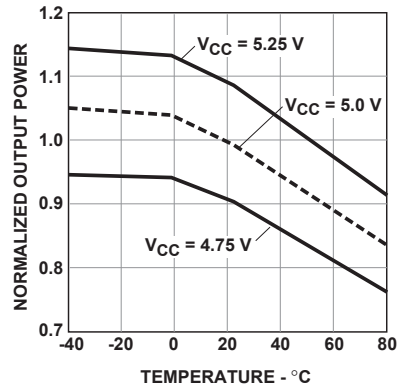

Figure 4. Typical normalized optical power vs. temperature (in recommended drive circuit)
- Minimum and maximum values for  $P_T$  over temperature are based on a fixed drive current. The recommended drive circuit has temperature compensation which reduces the variation in  $P_T$  over temperature; refer to Figures 4 and 6.